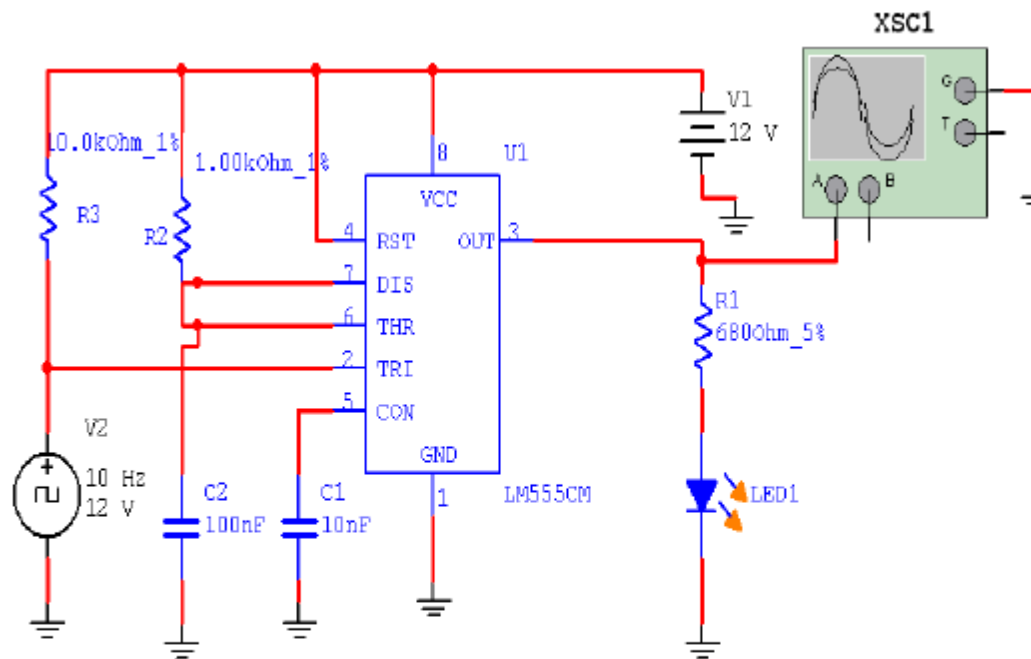

Fig.11 Monostable Circuit
- Connect the circuit shown in Fig.11.